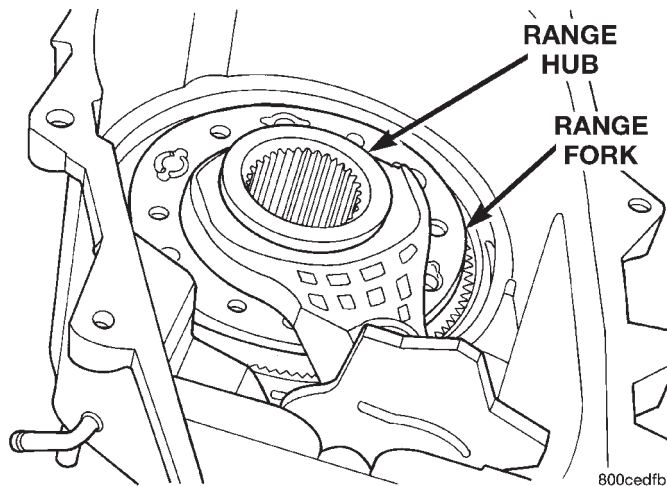

Fig. 63 Install Range Fork And Hub Assembly
(4) Assemble and install range fork and hub (Fig. 63). Be sure hub is properly seated in low range gear and engaged to the input gear.